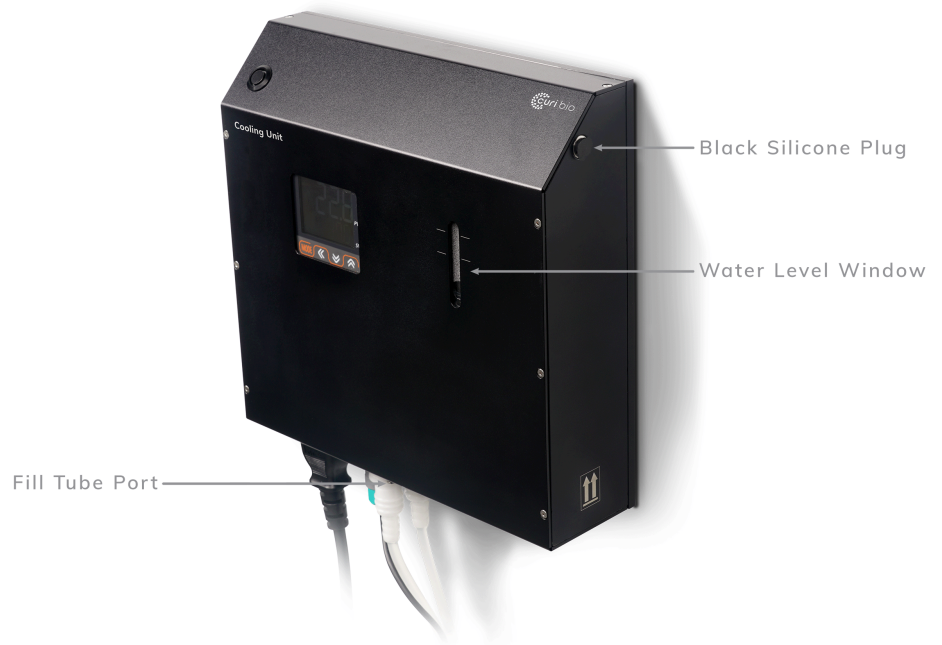

Figure 7: Cooling Unit.
6. Remove the black silicone plug at the top right of the Cooling Unit and attach the fitting on the end of the fill tube to one of the ports on the bottom of the Cooling Unit. Fill the Cooling Unit to 225 mL of water. Please ensure that the water level stays between the designated lines of the Water Level Window shown in Figure 7.